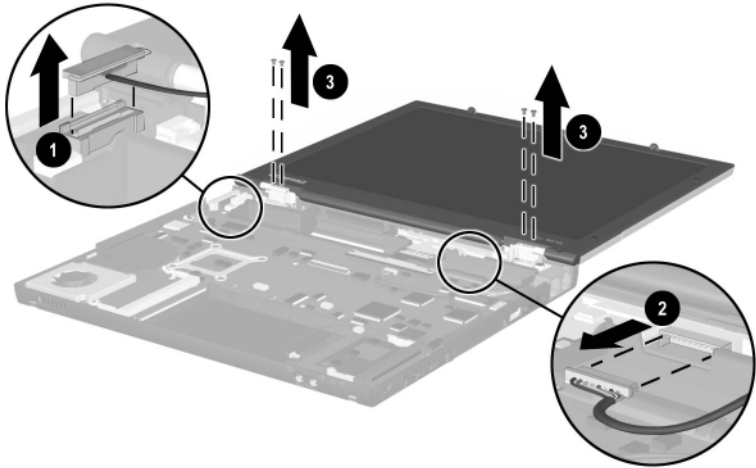

Figure 5-23. Removing the Display
2. Disconnect the display signal ❶ and backlight ❷ cables from the system board (Figure 5-23).